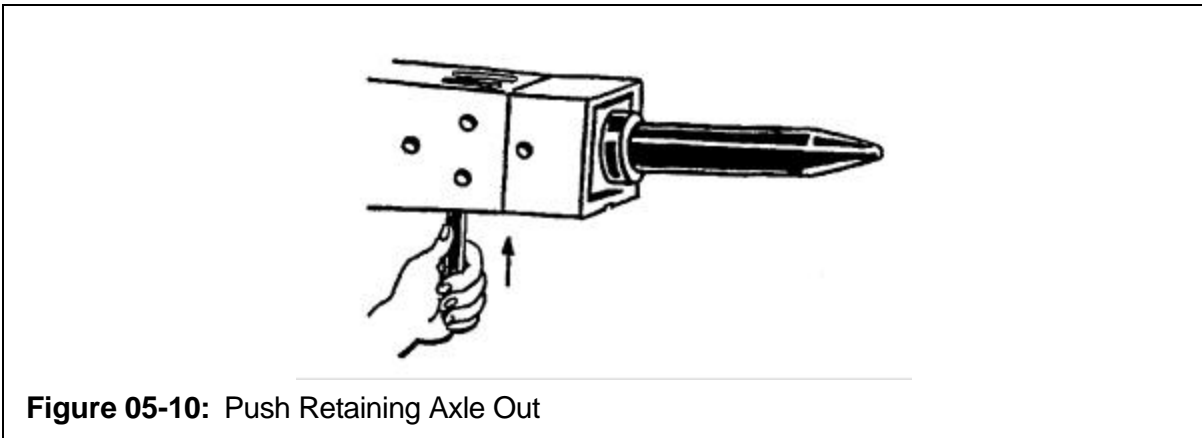

Figure 05-10: Push Retaining Axle Out
- With a blunt tool, push the retaining axle out from the opposite side. (Figure 05-10)